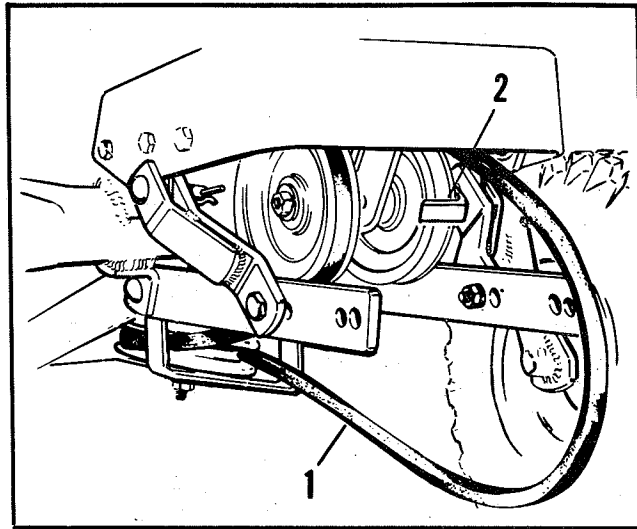

Figure 3.
4. Pull the rotor drive belt to bring all slack forward on the left side of the tractor as shown at 1, Figure 3. Install the slack end of the belt in place around the rotor drive pulley.
1. Rotate the belt stop No. 162115 as shown at (2), Figure 3, to prevent the stop from interfering with the drive belt when using the 27" snow thrower.